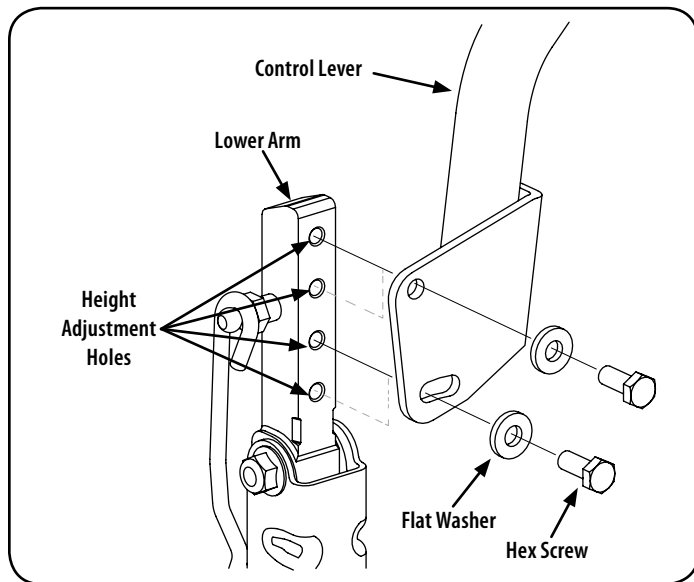

Figure 31
2. While supporting the control lever to keep it from falling, remove the hex screw and flat washer from the bottom of the control lever and lower arm. Refer to Figure 31.
1. If not already loose, loosen the hex screw and rotate the control lever either forward or rearward to the desired position. See Figure 31.